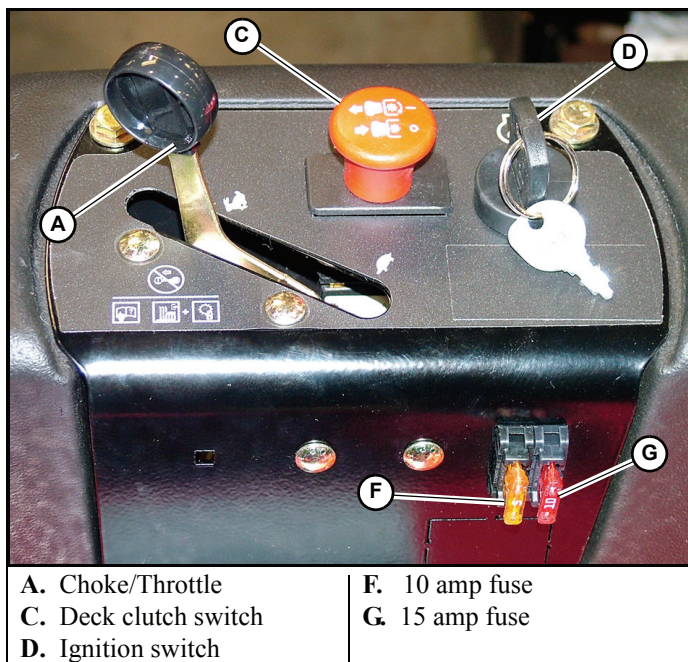
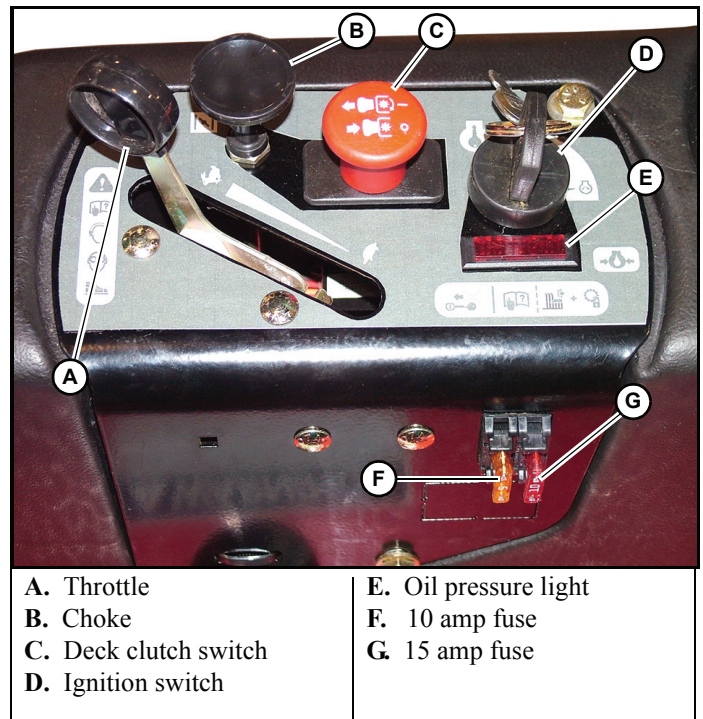

Fig. 3-1
Fig. 3-2
- A. Choke/Throttle control (Fig. 3-1)** — (Units with an integrated choke/throttle control) a cable is linked to engine throttle for controlling engine speed. Move lever forward to increase engine rpm, move lever rearward to decrease engine rpm.
Throttle control (Fig. 3-2) — (Units with a separate throttle and choke controls) a cable is linked to engine throttle for controlling engine speed. Move lever forward to increase engine rpm, move lever rearward to decrease engine rpm.
- B. Choke control (Fig. 3-2)** — (Units with a separate throttle and choke controls) a cable is linked to manually operate the engine choke. When the control knob is in the down position, the choke is in the off (run) position. When the control knob is pulled up, the choke is in the on (start) position. **Do not** operate the machine in the on (start) position.
- C. Deck clutch switch (Fig. 3-1 & Fig. 3-2)** — this switch engages the deck. Pull the switch up to engage and push switch down to disengage the clutch.
- D. **Ignition switch (Fig. 3-1 & Fig. 3-2)** — a three position switch: off, run, and start. With key inserted, rotate it clockwise to START position; release key when engine starts, and switch will automatically return to the RUN position.
- E. **Oil pressure light (Fig. 3-2)** — this light comes on when the ignition switch is placed in the RUN position and stays lit until the engine is running and a safe oil pressure is developed. If light comes on during operation, shut engine off immediately and locate and correct the problem.
- F. **10 amp fuse (Fig. 3-1 & Fig. 3-2)** — Main - 10 amp, blade-type
- G. **15 amp fuse (Fig. 3-1 & Fig. 3-2)** — Clutch/Aux - 15 amp, blade-type